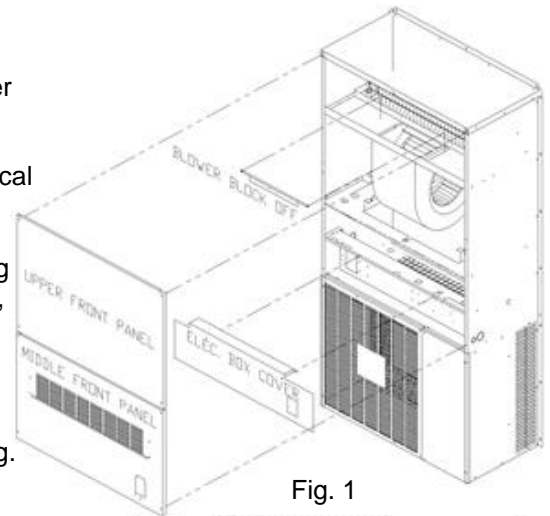

Fig. 1
2. Remove the Upper Front Panel and Middle Front Panel. Remove the Electrical Box Cover and the Blower Block Off at the exit of the blower (Fig. 1).